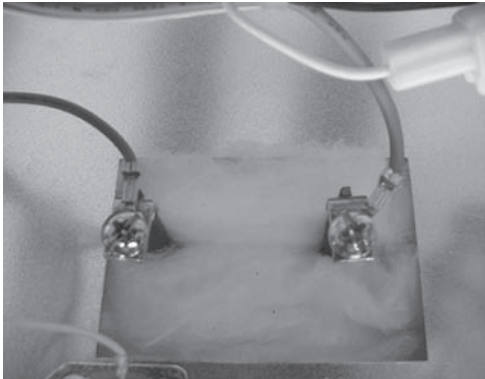

Fig. O-7
3. Disconnect the wires by removing (2) nuts from element **(Fig. O-7)**